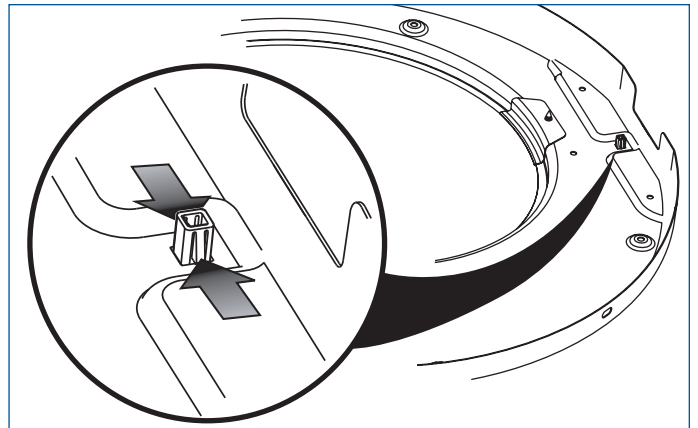

Figure 2-23.
4. From the back side of the inner door, pinch the retaining tabs of the plastic square plug to release it. Save square plug for reinstallation. (See Figure 2-23)